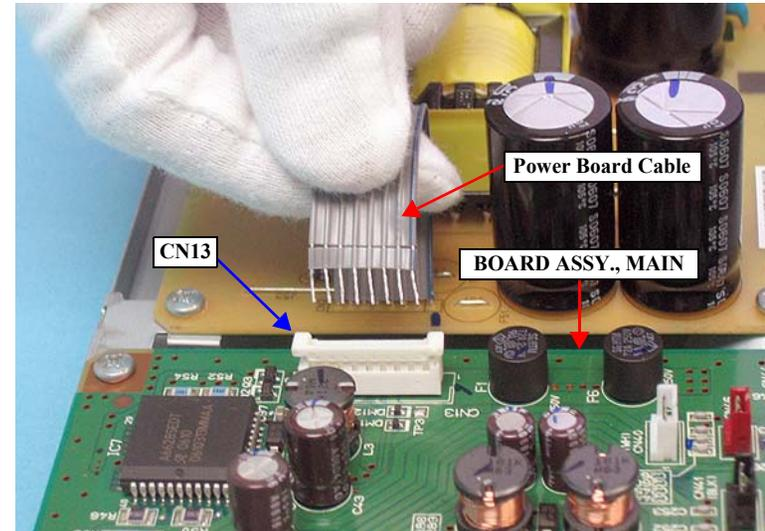

Figure 4-33. Disconnecting the Power Board Cable from CN13
2. Disconnect the Power Board Cable from CN13 on the BOARD ASSY., MAIN. Note that the connector is locking the cable. Be sure to unlock it to disconnect the cable. See Figure 4-33.